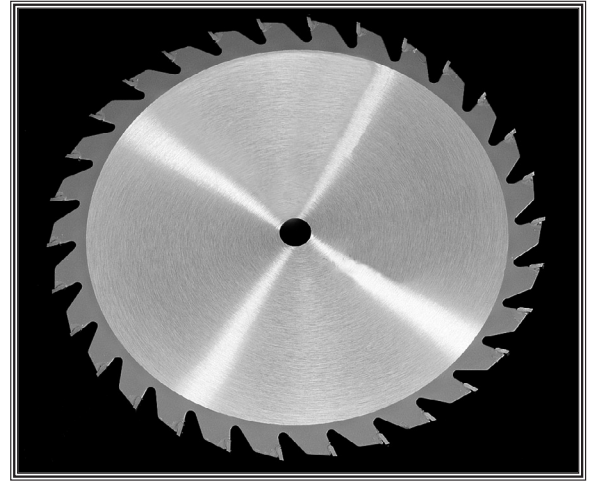

Figure 33. Rip blade.
- Rip blades (**Figure 33**) typically have between 30-40 teeth and provide fast feed rates when making long cuts along the grain. Rip blades have large teeth for excellent chip clearance and minimal binding. The main drawback for rip blades are the rough cuts left in the stock.